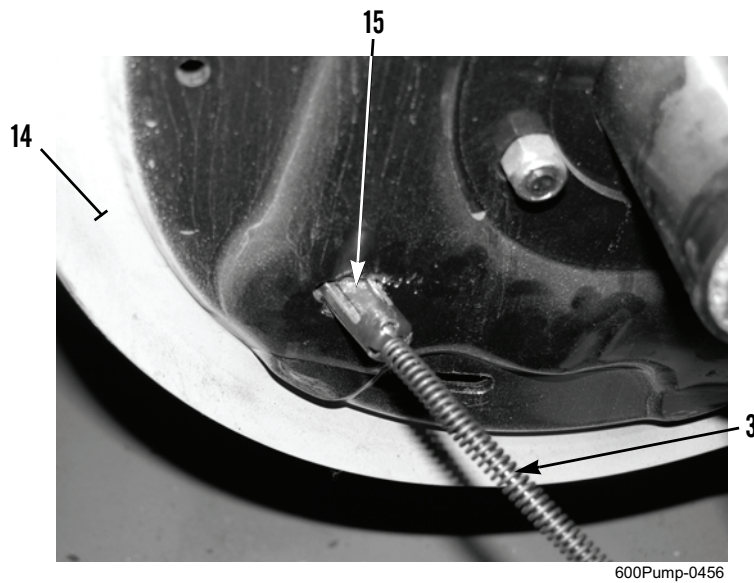

Figure 3. Tabs on Hand Brake Cable.
4. Squeeze tabs (Figure 3, Item 15) on hand brake cable (Figure 3, Item 3) and push outward to remove hand brake cable from backing plate (Figure 3, Item 14).